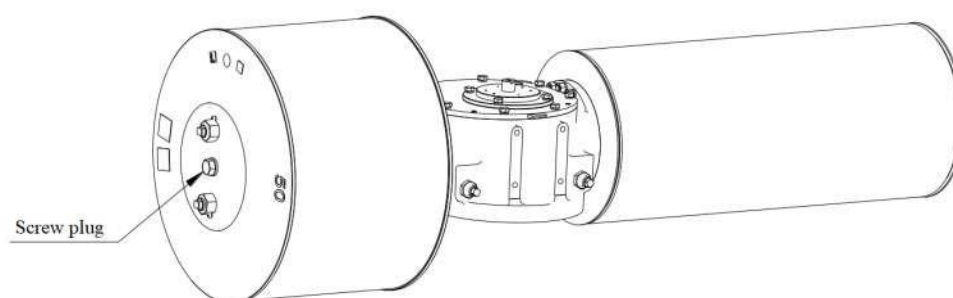

Figure 9
1) Unscrew the screw plug on the cover of the outer cylinder (see Figure 9);
3) Unscrew the screw plug on the outer cylinder to vent air(see Figure 9)